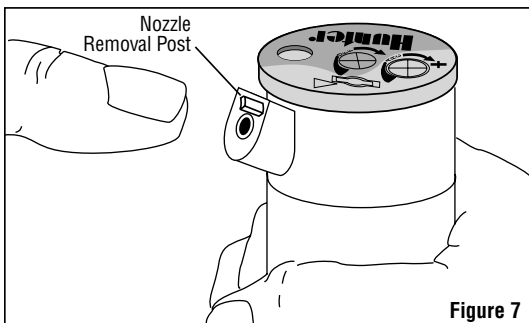

Figure 7
3. Slip the desired nozzle into the socket (Fig. 7). Note that the socket is angled up 25 degrees. Then tighten the nozzle range screw. The triangle on the rubber cover will always indicate the direction of the nozzle when the sprinkler is retracted.